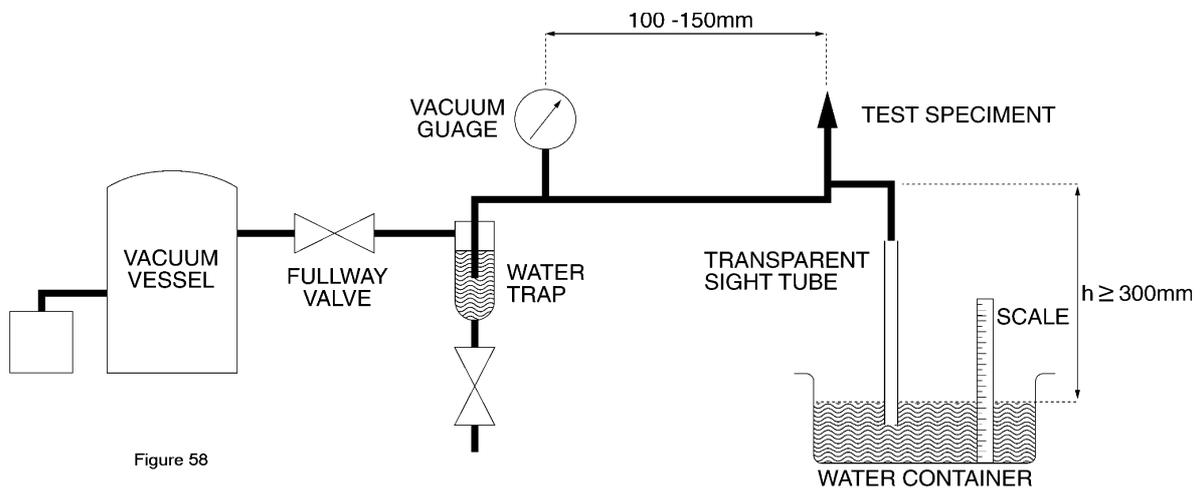

Figure 58
- (1) Mount the device in the test system in its normal working position. (Reference Figure 58).
- (2) Open the full-way valve within 1 second so that the absolute pressure, below 50 KPa (0.5 bar), is applied to the pipe interrupter for at least 5 seconds.
- (3) Record the water column height in the transparent tube.